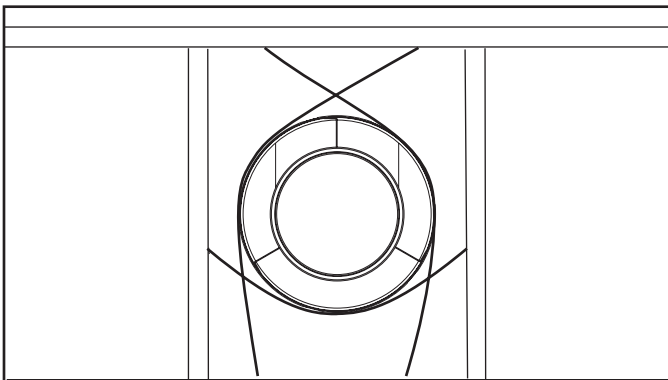

Figure 10.8 Securing Vertical Pipe Sections
- Vent supports or plumbers strap (spaced 120° apart) may be used to support. See Figures 10.8 and 10.9.